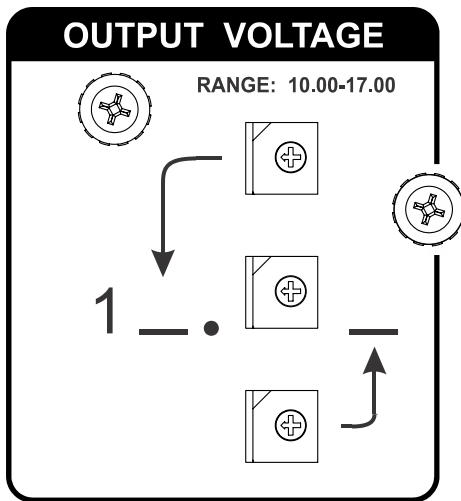

Figure 8.1
The battery charger is adjustable with the three rotary switches on the front of the charger. The switches (settable between 10.00 and 17.00) determine the float voltage for the batteries. **SET THE FLOAT VOLTAGE TO THE BATTERY MANUFACTURER'S SPECIFIED VOLTAGE FOR 77°F.** The charger will then electronically charge the batteries to the voltage specified on the switches. To set the switches, use a small screwdriver and turn the switch so that the arrowhead on the slot is pointing to the desired number. Set the switches in the following manner: If the desired battery voltage is 13.38 volts, set the top switch to 3, the middle switch to 3, and the bottom switch to 8 (see the figure 8.1). This will provide you with the proper charging voltage. The tens digit is always a one (1) and cannot be changed. **BE SURE EACH SWITCH IS SET ON A NUMBER AND NOT BETWEEN NUMBERS.** If a switch is set between numbers, the output current will go to zero and the yellow charging LED will flash.